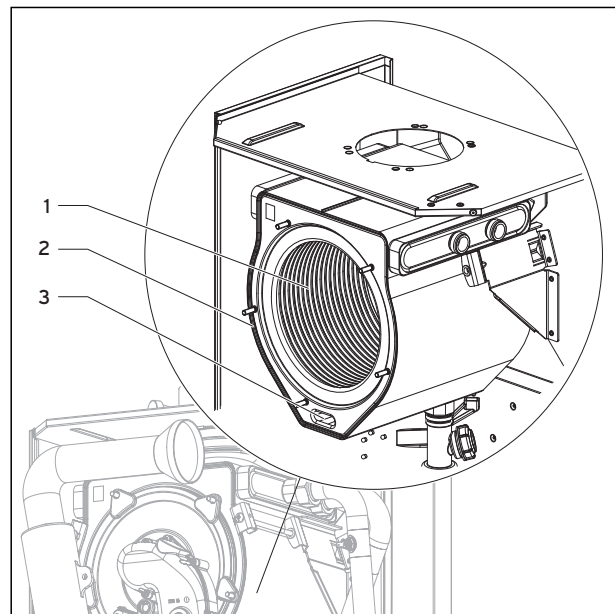

Fig. 7.4 Cleaning the heat exchanger
- Clean the heating spiral (1) of the integral condensation heat exchanger (2) using a soft brush (fig. 7.4). Rinse with water.
- The condensate receptacle can also be cleaned via the opening (3).